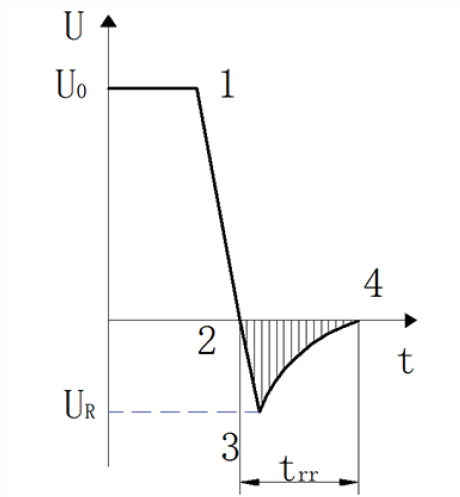

**Figure 3**
**Fig. 3 shows the hysteresis loop of the nanocrystalline core. The spike suppressor works as follows:**